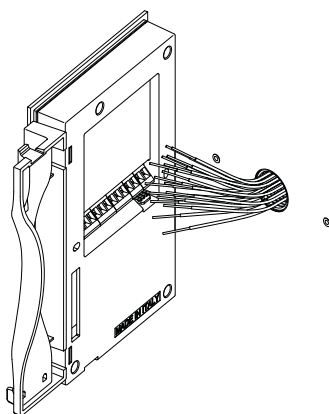

Fig. 2a
2. As shown in **Fig. 2a**, connect the wires using a flat screw driver then setup the dip-switches as per provided connection diagram or instruction sheet.